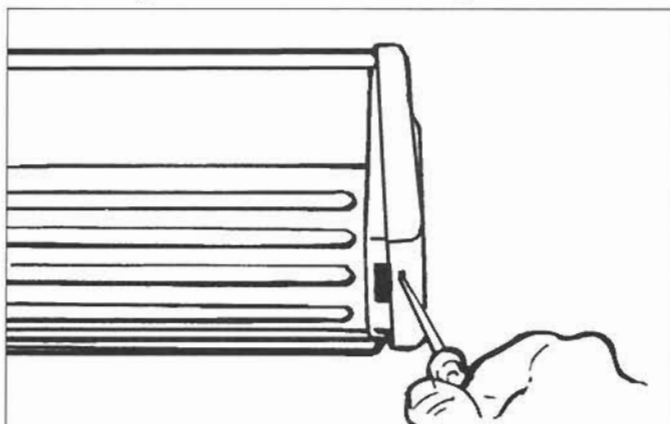

Figure 2-12. Installing/Removing Door Shelf Assy.
1. Place a flat-bladed screwdriver into the outside end cap and pry the end cap away from the shelf assembly (Figure 2-12).
1. Insert a flat blade screwdriver into the outside end cap and pry away from the dairy compartment (Figure 2-12).